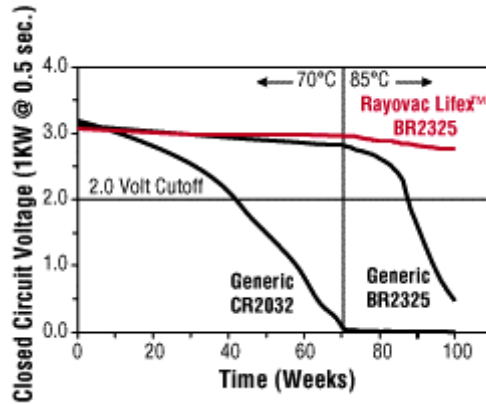

Figure 4
The advantage of Rayovac Lifex coin cell performance after high temperature storage is further illustrated in the figure below. Figure 4 shows how the Lifex BR2325 coin cell compares with other lithium carbon-monofluoride (BR) and lithium manganese dioxide (CR) cells when stored at high temperature. The data presents the results of weekly closed circuit voltage measurements on a 1K ohm load at 0.5 second duration after high temperature storage. The test was started at a storage temperature of 70°C and then later increased to 85°C to allow for the temperature limitations of the CR cell.